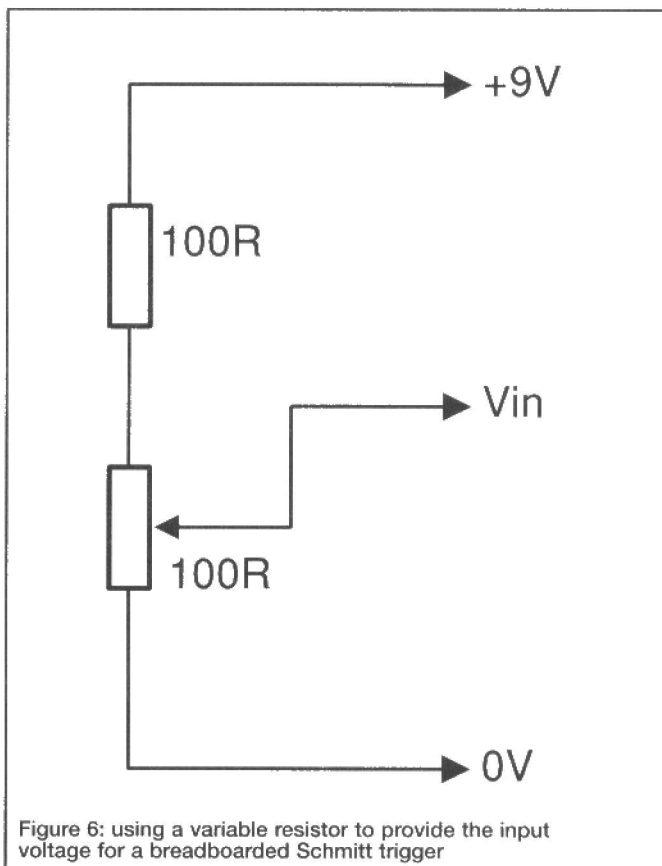

Figure 6: using a variable resistor to provide the input voltage for a breadboarded Schmitt trigger
2. Once the circuit has been switched off at 32degreesC by a rising temperature, the temperature has to fall to 25degreesC before it is switched on again. This avoids a situation in which a circuit is triggering on and off every few seconds. The gap between the two thresholds is known as the hysteresis of the circuit. If you are following this project on a breadboard, now is the time to set up the circuit, measure the thresholds and find the hysteresis. Use a variable resistor to produce the varying input, as in figure 6.
Run the program, insert the card (in the right position) when prompted, then press any key (for example, the space bar). A binary dump will soon appear on the screen, normally looking like the samples in figure 6. It can be hard-copied on the